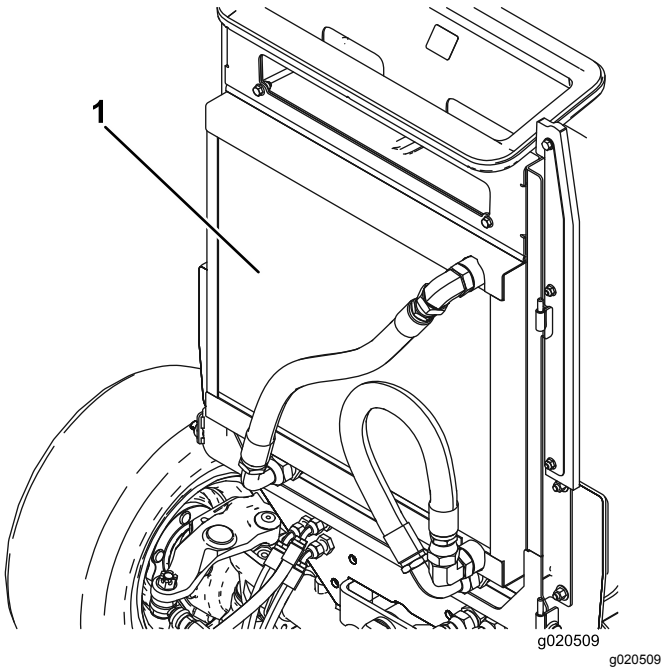

Figure 46
- Clean both sides of the oil cooler/radiator area (Figure 46) thoroughly with compressed air. Start from the front and blow the debris out towards the back. Then clean from the back side and blow towards the front. Repeat procedure several times until all chaff and debris is removed.